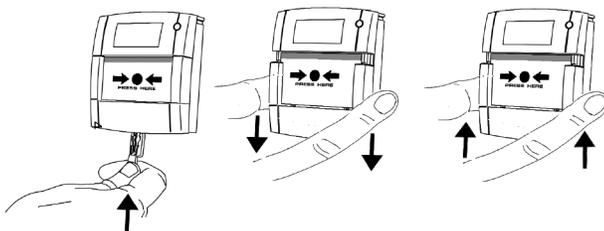

Figure 3: Resetting the callpoint
2. To close the callpoint, push the sliding plate upwards until it snaps into place. See Figure 3.